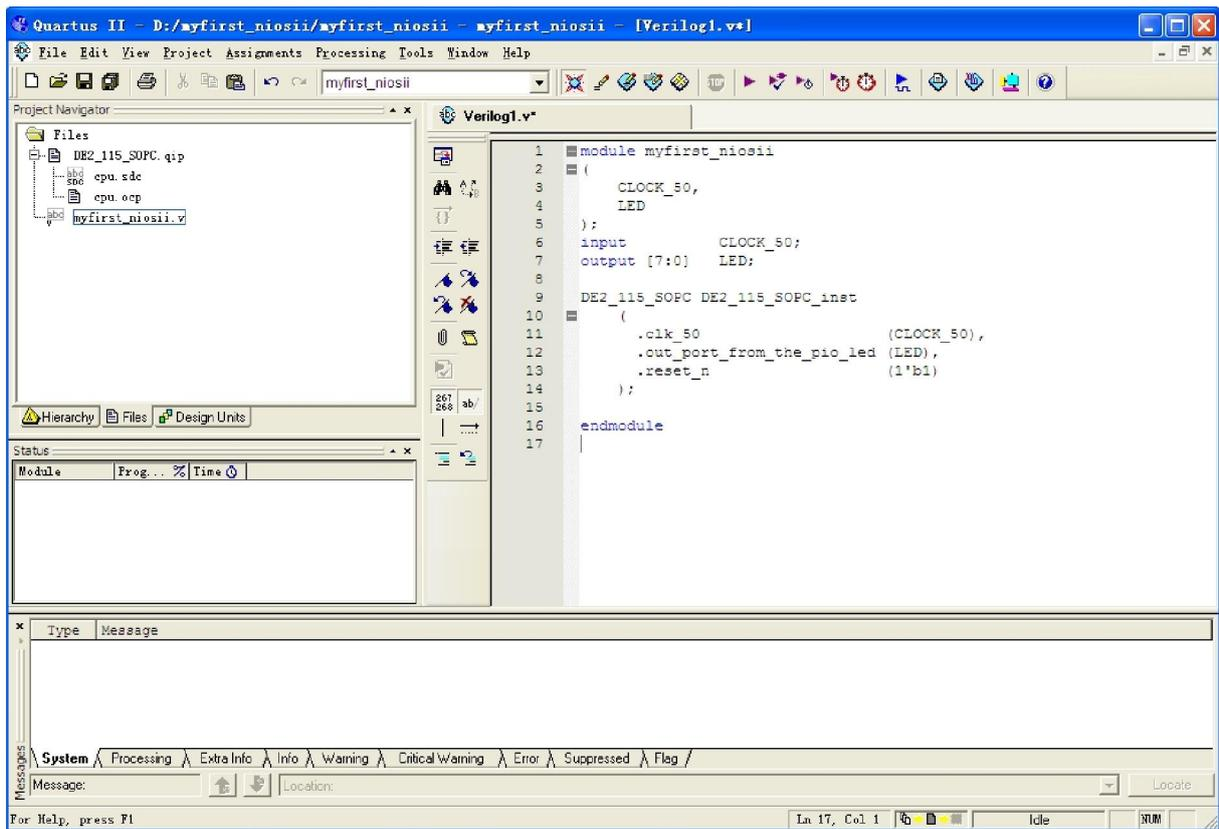

Figure 1-43 Input verilog Text
34. Type verilog the following script as shown in Figure 1-43. The module **DE2_115_SOPC** of the code is from **DE2_115_SOPC.v** of the project. See